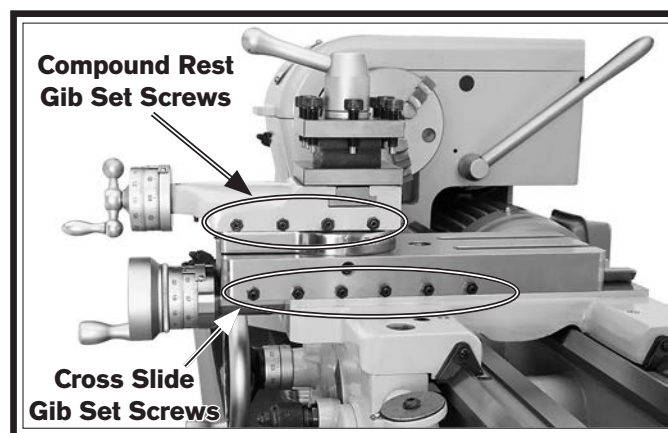

Figure 85. Cross slide and compound rest gib screws.
1. Loosen the hex nuts on the set screws shown in **Figure 85**.